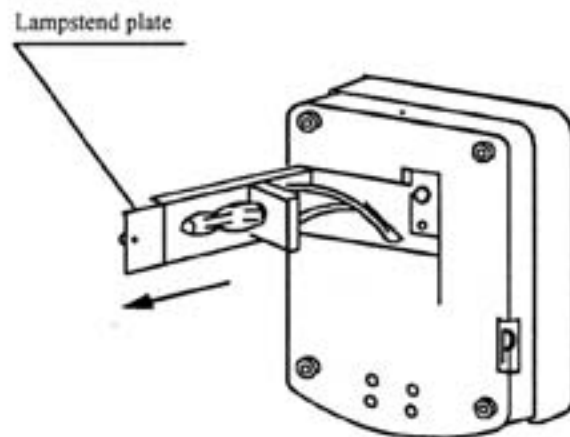

Fig 5
4.4.2 Screw out the thumb screw and turn over the lampstand plate (Fig.5).
4.4.3 Draw out the burnt-out bulb in arrowed direction as shown in Fig.5 and replace it with a new one. Be sure not to leave any fingerprint or stains on the bulb to avoid reducing the bulb brightness and lifetime.